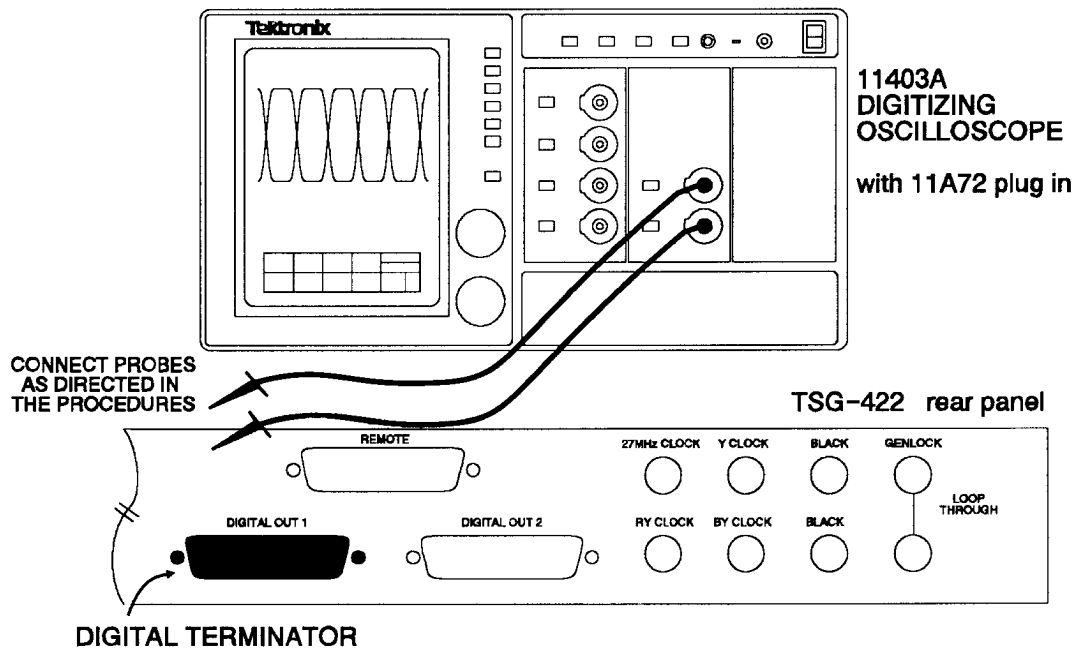

Fig. 5-18. Setup to adjust the Shift Data Timing.
- a. Set up the equipment as shown in Fig. 5-18.